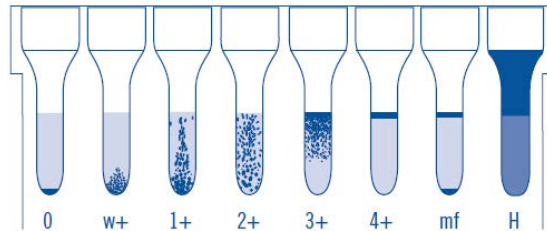

Figure 1. Picture of an example of reaction grades.
**Positive results:** agglutination and/or hemolysis of the red blood cells is visible in the microtube. In a positive result the agglutinated red blood cells may remain throughout the gel column showing different reaction grades (see Reaction Grades and Figure 1 for a picture of example of reaction grades). Some positive reactions may also form a pellet in the bottom of the microtube. Samples with normal expression of ABO and Rh(D) antigens provide strong positive reaction grades. Weaker reactions may indicate a weak or partial expression of ABO and Rh(D) antigens. Subgroup A2 of the ABO system may also present a weak expression.